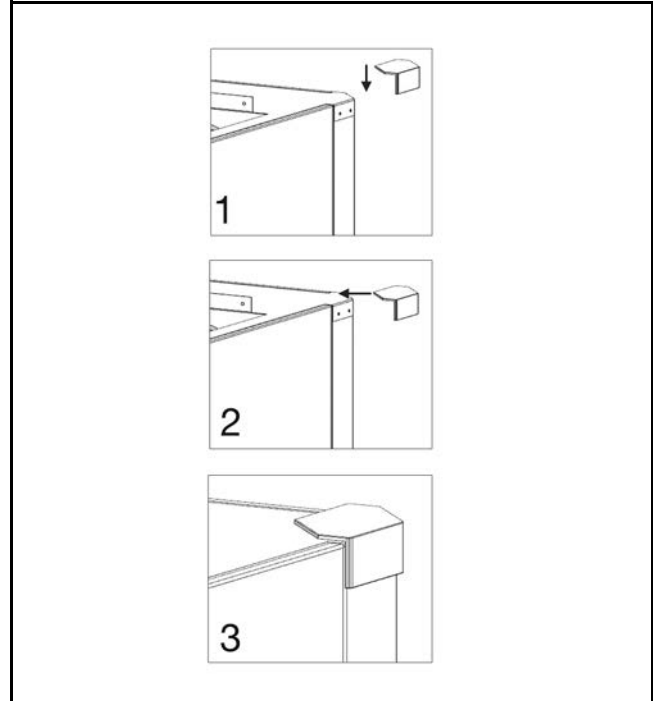
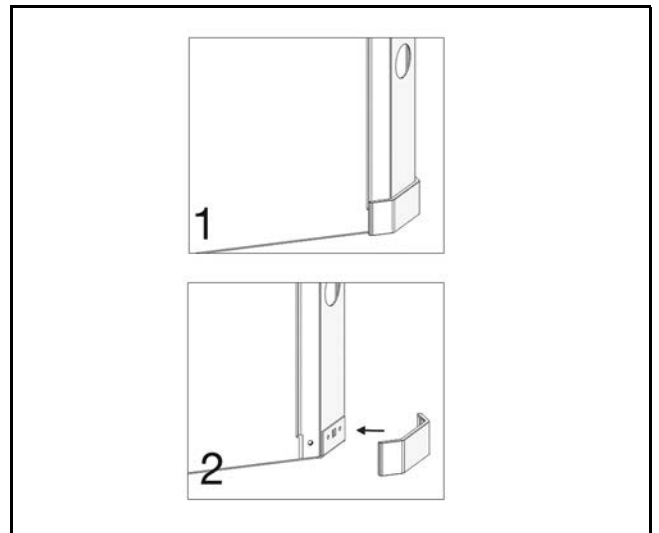

Fig. 41
Fig. 42
3. Remove adhesive backing and install each corner cap. (See Fig. 41 and Fig. 42.)